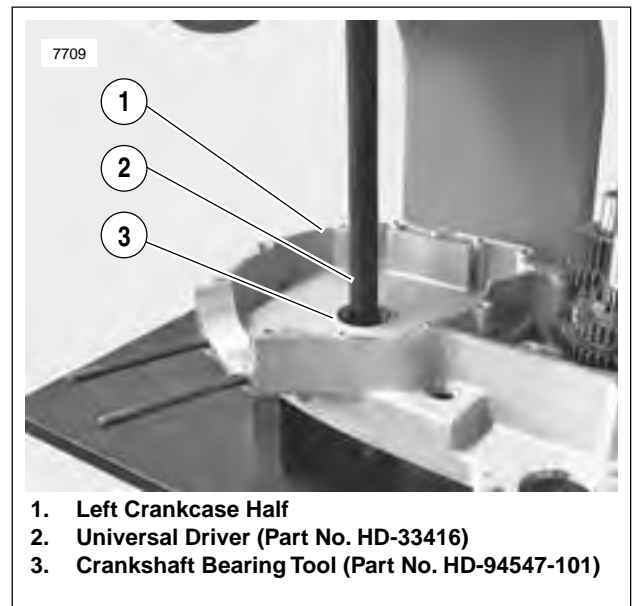

Figure 3-119. Sprocket Outer Shaft Race Removal
12. See Figure 3-119. Use CRANKSHAFT BEARING TOOL (Part No. HD-94547-101) to remove sprocket shaft outer races.